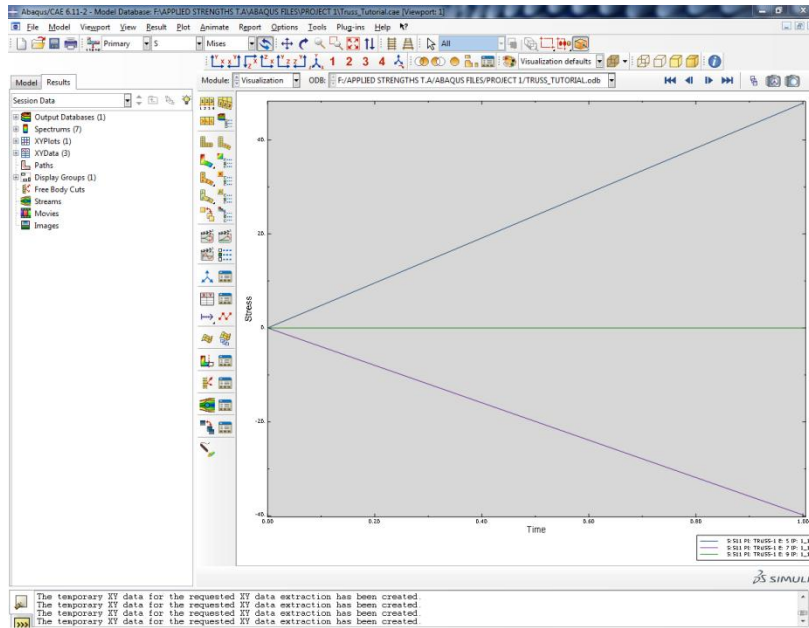

Figure 41. Field Output Plot
- A plot should appear similar to that in Figure 41.